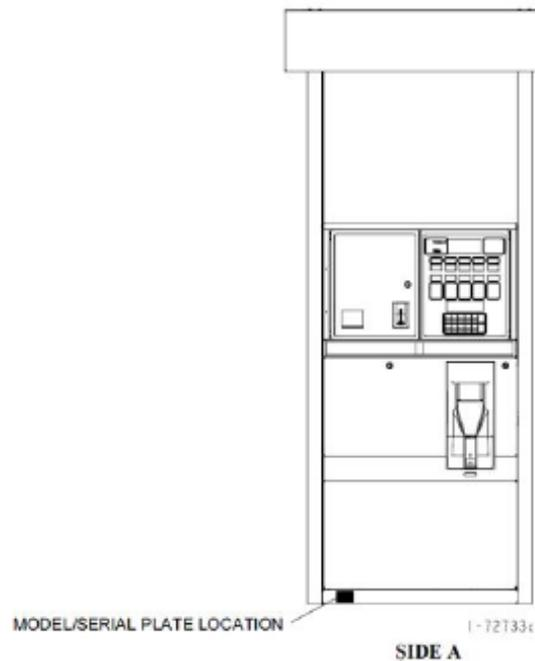

Figure 107
- c) You are looking at SIDE A. See Figure 107